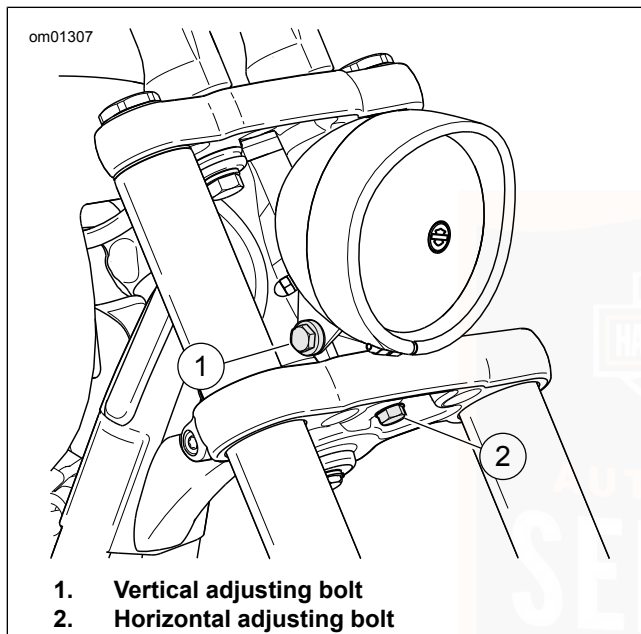

Figure 81. Headlamp Adjustment
1. See Figure 81. Adjust headlamp horizontal alignment.
- a. Loosen horizontal adjustment screw (2). Adjust headlamp horizontally to direct light beam straight ahead.
2. See Figure 81. Adjust headlamp vertical alignment.
- a. Loosen vertical adjustment screw (1). Adjust headlamp vertically until beam centers on horizontal line.
- b. Tighten vertical adjustment screw (1):